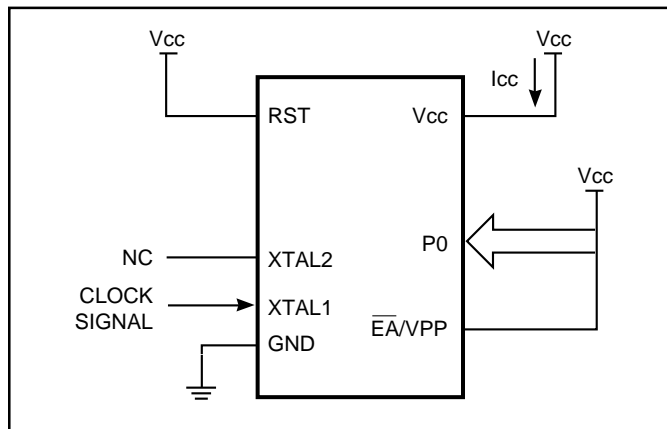

Figure 14. Active Mode
1. See Figures 14, 15, 16, and 17 for I_{cc} test conditions.